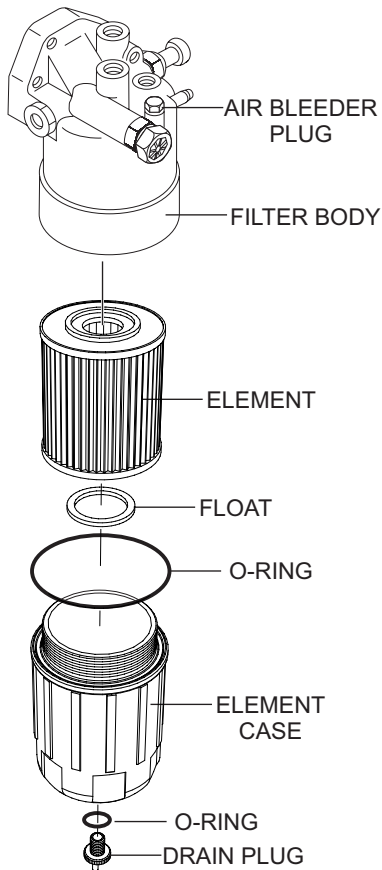

**Figure 72. Draining The Fuel Filter**
1. Loosen the **air bleeder plug** (Figure 72) on the fuel filter body.